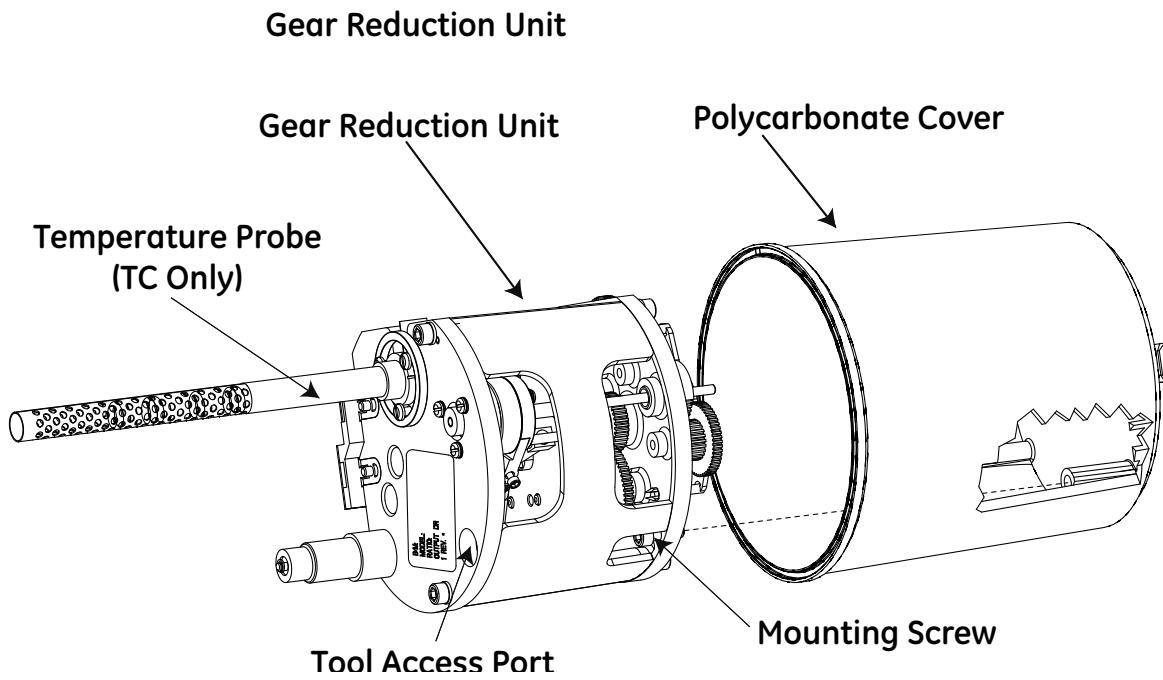

Figure 18 - Exploded view of Gear Reduction Assembly and Polycarbonate Cover
Removing the Gear Reduction Assembly from the Polycarbonate Cover (Refer to Figure 18)
Use a 9/64" Allen wrench to remove the mounting screw holding the accessory unit in the cover. The screw can be accessed through the Tool Access Port as shown in Figure 18.
Replacing the Gear Reduction Unit in Polycarbonate Cover (Refer to Figure 18)
1. Remove CTR or TC Accessory from the meter. To do this, remove the four screws securing the slip flange, and remove the slip flange. Gently pull the accessory housing assembly off the meter. Remove the screws and slip ring. Then, remove the CTR or TC accessory from its housing by loosening the screw inside the housing. As shown in Figure 18.
1. Remove the CTR Accessory from the meter. To do this, remove the four screws securing the slip flange and remove the slip flange. Gently pull the accessory housing assembly off the meter. Remove the screws and slip flange. Then, remove the CTR accessory from its housing by loosening the screw inside the housing. See Figure 18.